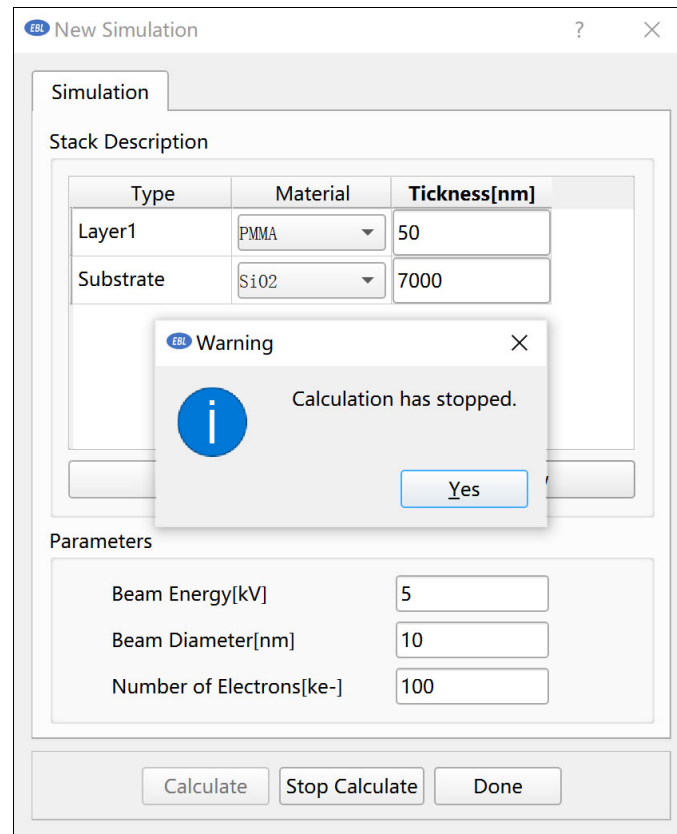

Figure 2.3.2 Stopping MC simulation
- 2) When the program is running, you can click "Stop Calculate" to terminate (Figure 2.3.2). You can re-enter the parameters and click "Calculate" again to start MC simulation.